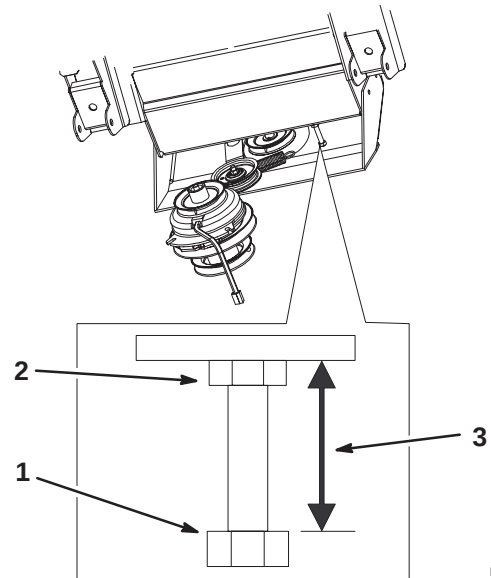

Figure 17
**Note:** Make sure the bolt for the spring is set at 2 in. (Fig. 17).